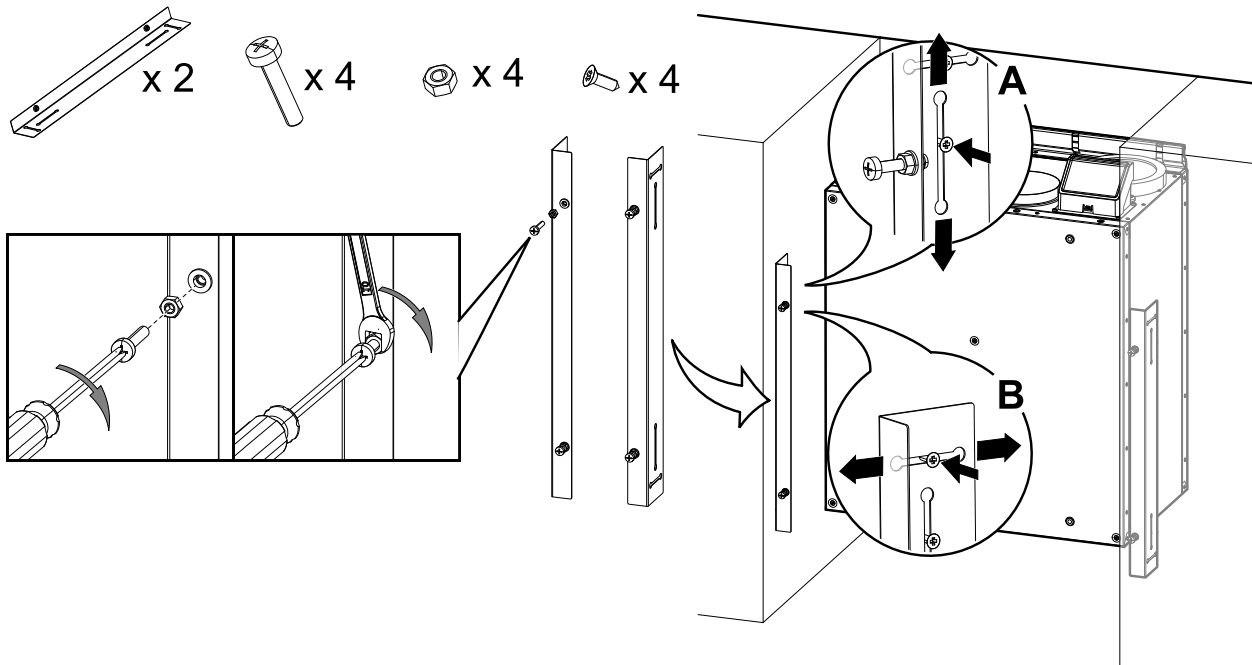

Fig. 22 Installation of bolts and brackets
1. Install four M6 bolts into threaded inserts in brackets and lock bolts with hex nuts (figure 22). Bolts protrusion can be adjusted later.
Brackets are adjustable vertically (figure 22, A) and horizontally (figure 22, B). Align the brackets with the underside of the unit. Fully tighten screws after adjusting the brackets.